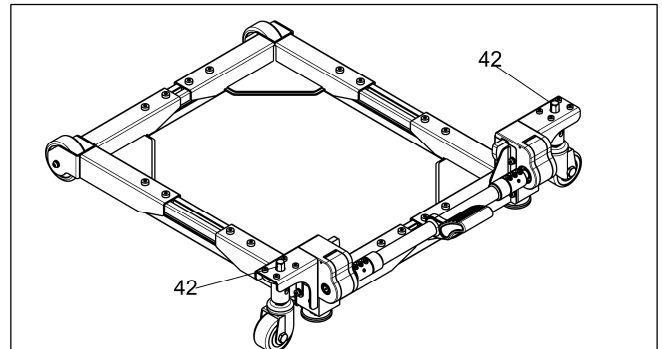

Fig.11
- Use the Dual-purpose wrench "D" to rotate the regulating screw "42" (clockwise to lift the rollers; counterclockwise to lower the rollers), so that the machine's table is horizontal and all rollers are in contact with the ground. Ensure that the distance between the bottom of all support feet and the ground is greater than 25/64". (see **Fig.11**)